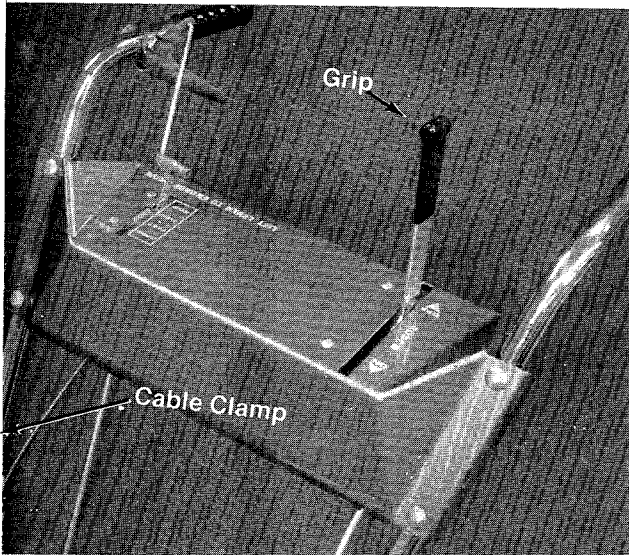

FIGURE 6
- Place the grip on the blade engagement lever. (See figure 6.)